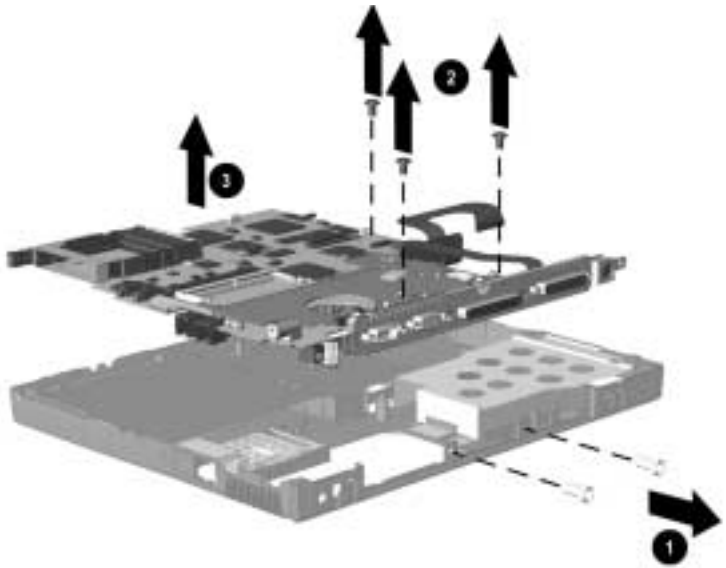

Figure 5-25. *Removing the System Board*
5. Remove the two bushing guides **1** that secure the system board to the I/O bracket (Figure 5-25).